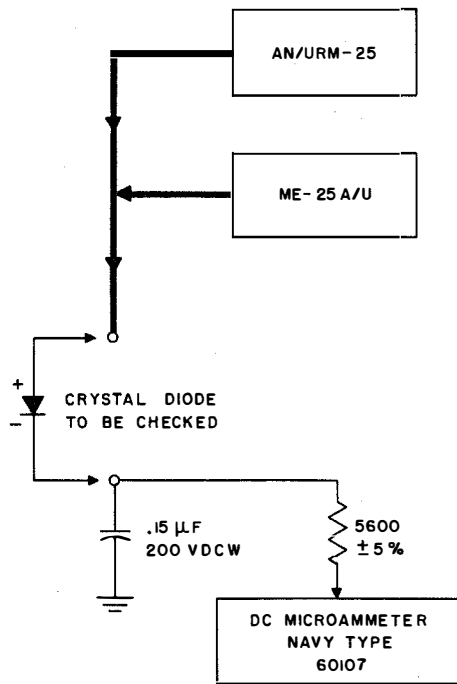

Figure 7-96. Crystal Matching, Test Setup
Step 1. Connect equipment as shown in figure 7-96.
Step 2. Apply maximum r-f voltage from the AN/URM-25, as indicated in figure 7-96, with crystal diode in place. Measure and record d-c current on microammeter, Navy Type 60107, to nearest 5 microamperes. Compare the diode currents at 0.3 mc, and then compare the diode currents at 26 mc. Keep the AN/URM-25 output the same at both 0.3 mc and 26 mc.